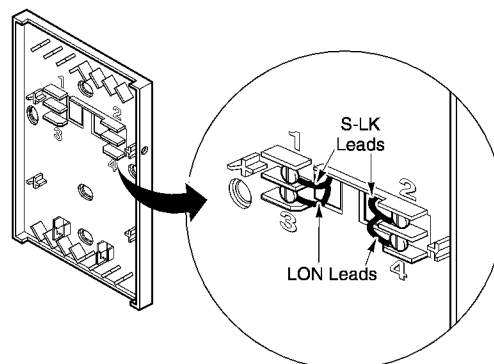

Figure-7 S-LK and LON Connections.
Communications wiring includes a connection between the controller and an I/A Series MicroNet Sensor via the S-LK and an optional connection between the sensor and the MicroNet LONWORKS network (LON). Figure-7 shows S-LK and LON wiring terminations.
2. Connect wires to screw terminals 1 and 2 (Figure-7). The S-LK terminals are polarity insensitive.
2. Connect wires to screw terminals 3 and 4 (Figure-7). The LON terminals are polarity insensitive.